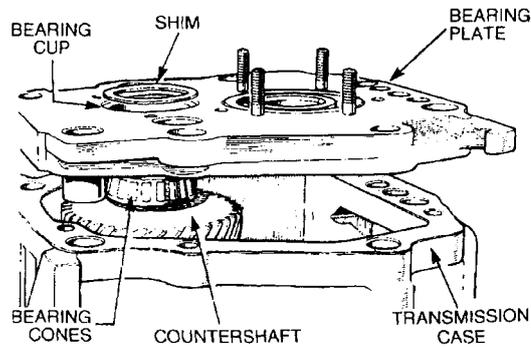

Figure 168 Countershaft Bearing Pre-load Adjustment
- o. Install the front bearing plate and gasket on the transmission case and insert the retaining studs and locating dowels. Using suitable spacers, fit the bell housing retaining nuts, washers and bolts and tighten them securely (Figure 168).
- p. Press in the front bearing cup until all end-play is taken up and there is no load on the bearings and install a suitable shim (Figure 168) so that there is approximately 0.25 mm (0.010 in) standing proud of the bearing plate. The available shim range is from 1.575 mm (0.062 in) to 2.50 mm (0.098 in) in 0.025 mm (0.001 in) increments.